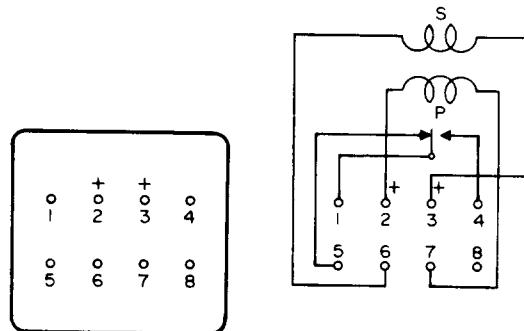

Fig. 74 – Winding and Spring Terminal Numbering — 314-Type Relays
2.80 As viewed from the rear, the winding and contact terminals are arranged in two horizontal rows of 4 terminals each. The upper row of terminals is numbered 1 through 4 starting at the left. The lower row of terminals is numbered 5 through 8 starting at the left as shown in Fig. 74.